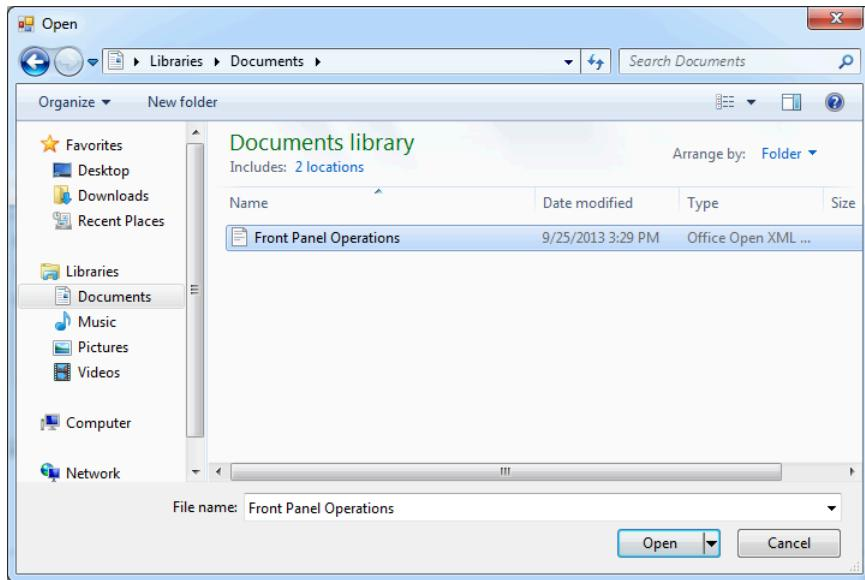

Figure 2.25 Open Document
- Step 12. Click the ellipses (highlighted in red in *Figure 2.24*), locate the document in your file system, highlight it, and click **Open** (see *Figure 2.25*).